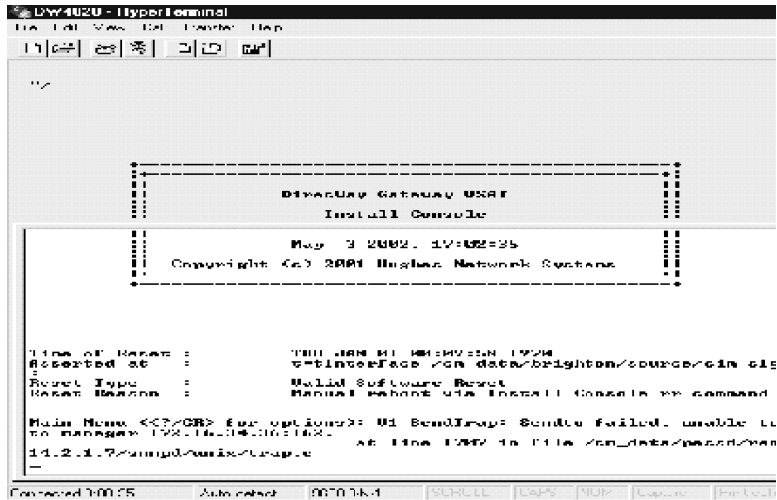

Figure 76: Initial Install Console screen
4. Press **ENTER** at the Hyperterminal prompt to display the initial Install Console screen shown in Figure 76.